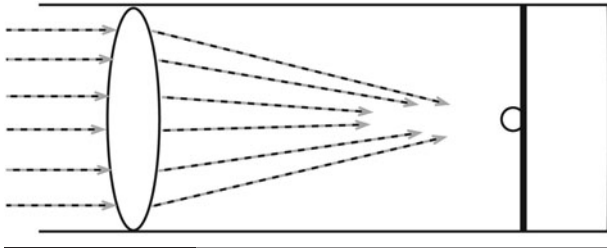

Figure L63-3
3. A lens inside a tube (Figure L63-3) works nicely for focusing a moderately strong light source. It is limited to light only and is not nearly as large as the parabolic surface.